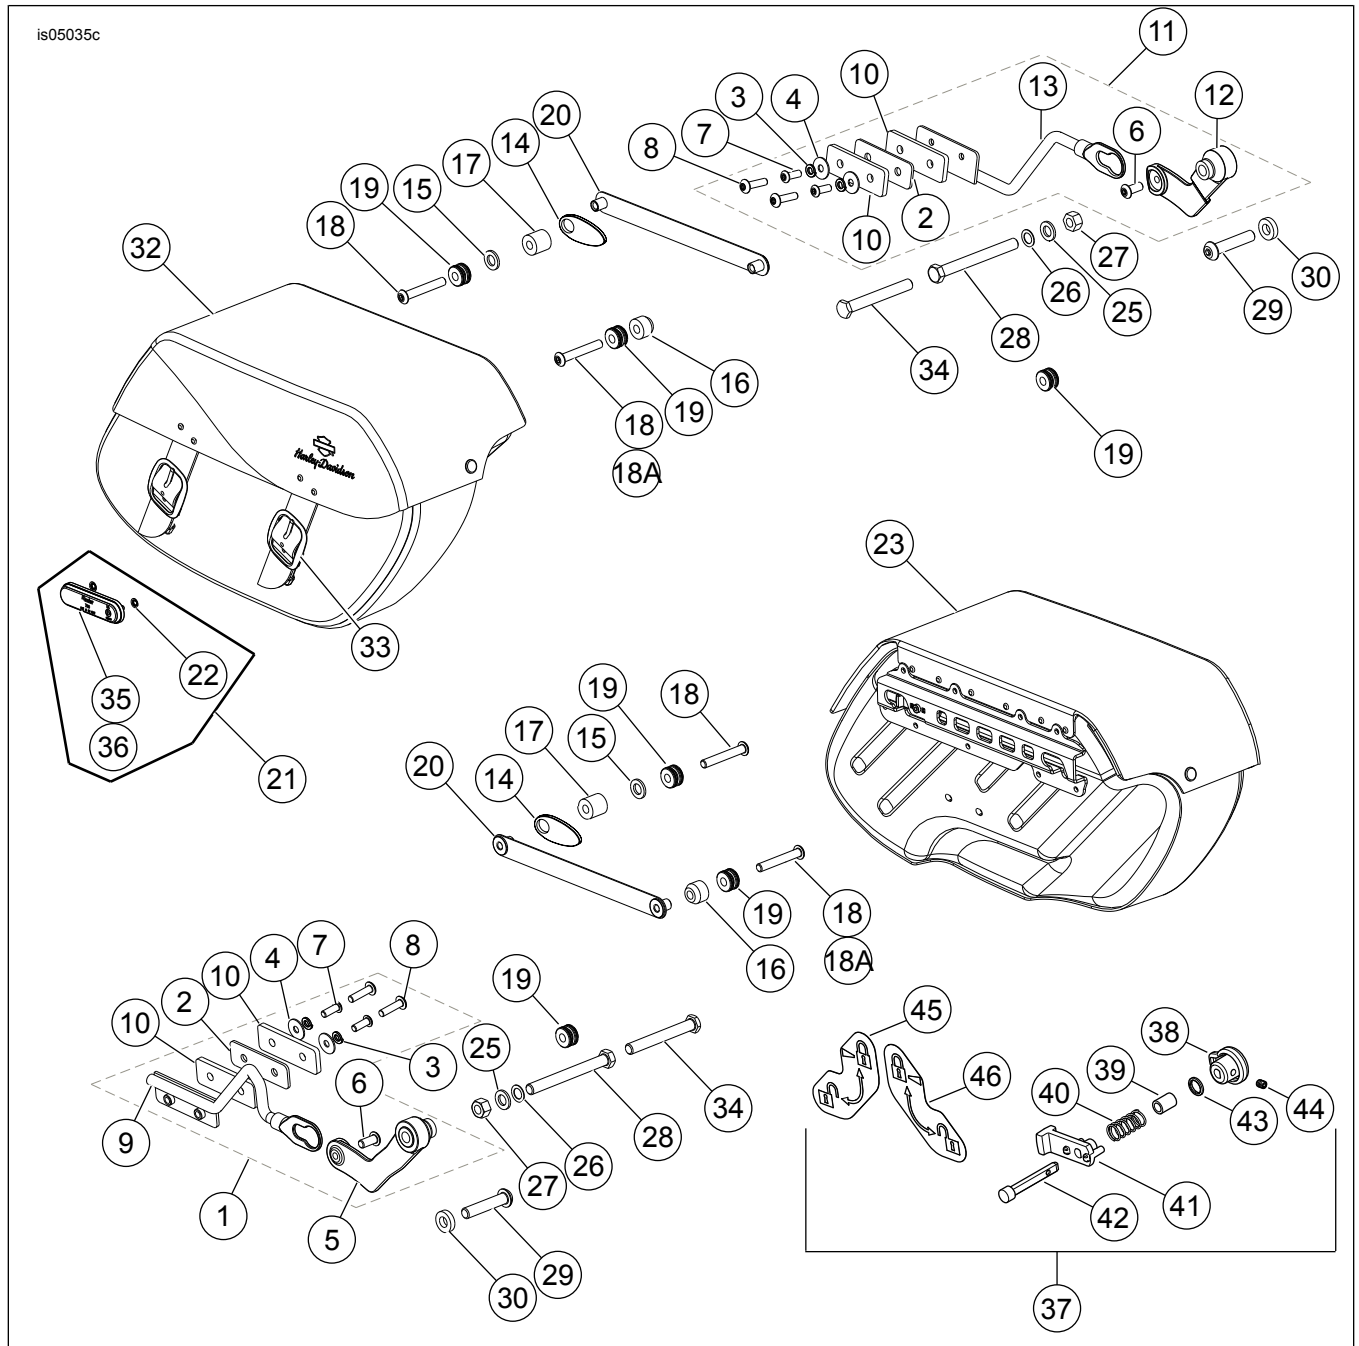

Figure 6. Service Parts: Dyna Detachable Saddlebag
See Figure 6 and Table 1.
3. See Figure 6. Remove the shock absorber following the instructions in the left lower bracket kit (1) or right lower bracket kit (11).
1. See Figure 6. Install right lower support arm (13) and left lower support arm (9) following the instruction sheets included in those kits.
4. See Figure 6. Tip the bag forward and swing the large diameter of the keyhole end of the lower support arm (13) over the lower docking point (19). Swing the body of the bag down so that the outer docking points on the strut cover slide into the slots on the back of the bag.
1. See Figure 6. Position reflector (21) in center of saddlebag between straps.
- Install reflector mount on saddlebag using two push nuts (22). The push nuts are installed from inside the saddlebag.